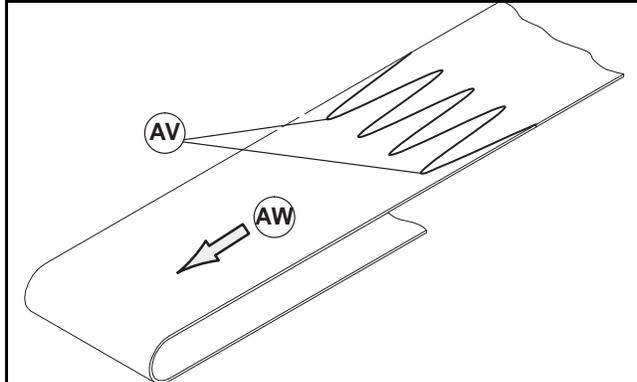

Figure 25
1. Orient conveyor belt so the splice leading fingers (Figure 25, item AV) point in the direction of belt travel (AW) as identified by the label (Figure 26, item AU).
1. Orient conveyor belt so that the splice leading fingers (Figure 25, item AV) point in the direction of belt travel (AW) as identified by the label (Figure 26, item AU).